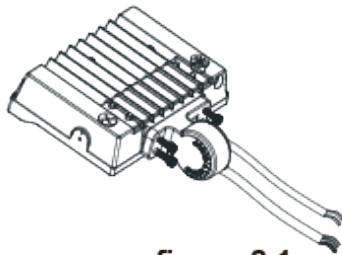

figure 2.1
Step 2: Pass the rubber wire through the mounting head of the bracket and secure it with an inner hexagon screw. (Watch out not to scratch the wire); (figure 2.1)